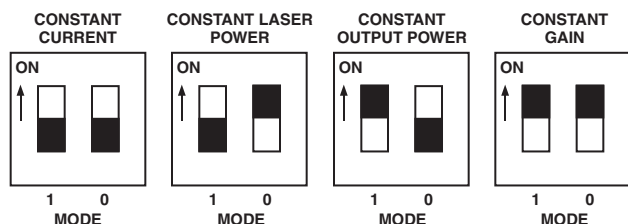

Figure 3. Demo Board Loop Control Modes
The control loop operating mode of the ADN8820 is set with the MODE switch located in Section (8). Refer to Figure 3 and the ADN8820 data sheet for a complete explanation of these modes.